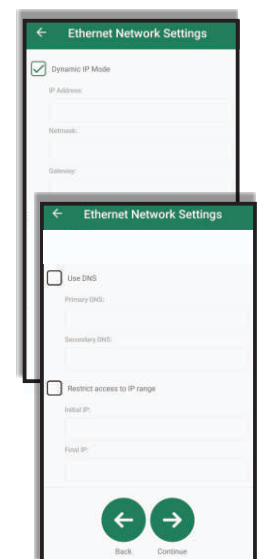

Figure 15
Step 1: On the **Basic Settings** screen, select the **Network Interface** field and the **Ethernet** option (Figure 15).